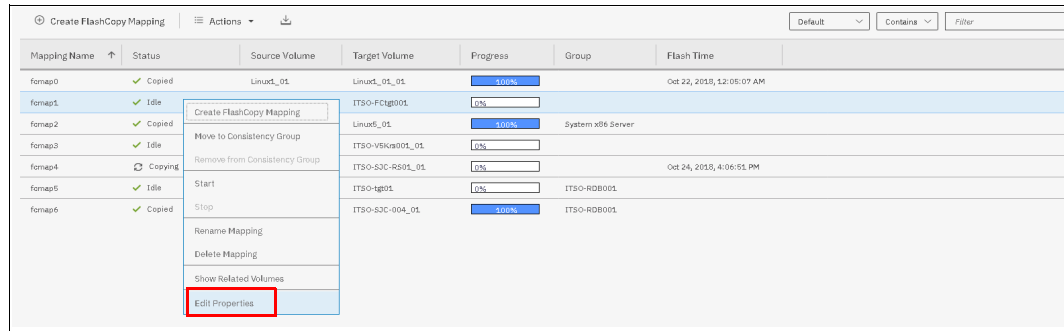

Figure 10-48 Edit Properties
- Select the FlashCopy mapping that you want to modify, and right-click **Edit Properties**, as shown in Figure 10-48 on page 514.